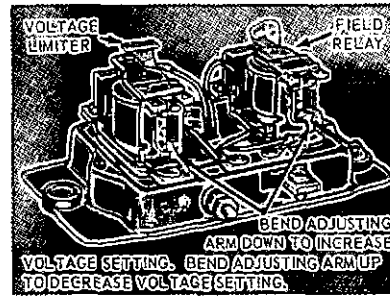

Fig. 17 – Leece-Neville
**VOLTAGE LIMITER** — To increase the voltage setting, bend the adjusting arm downward (Fig. 17). To decrease the voltage setting, bend the adjusting arm upward. (See Table in Specifications). *Before adjusting the voltage, and before making a final voltage reading with the cover in place, cycle the alternator. Reduce the alternator speed to zero and turn the ignition switch to OFF momentarily. This procedure must be repeated each time an adjustment is made.*
**FIELD RELAY** — The field relay cut-in voltage is increased by bending the adjusting arm downward, or decreased by bending the adjusting arm upward (Fig. 17). The cut-in voltage for a regulator used in an indicator light circuit is 1.6-2.6 volts. The cut-in voltage for a regulator used in an ammeter circuit is 6.2-7.2 volts.